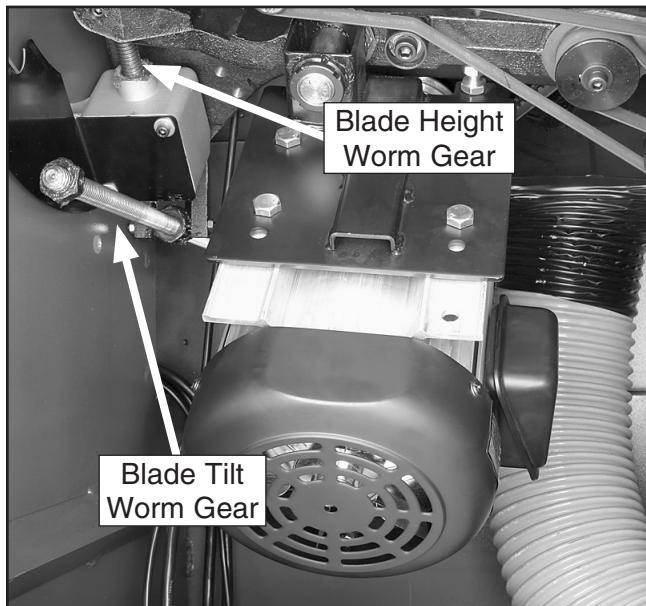

Figure 75. Gear lubrication.
- **Blade height and tilt worm gears.** Lubricate with an automotive wheel bearing grease (see **Figure 75**).